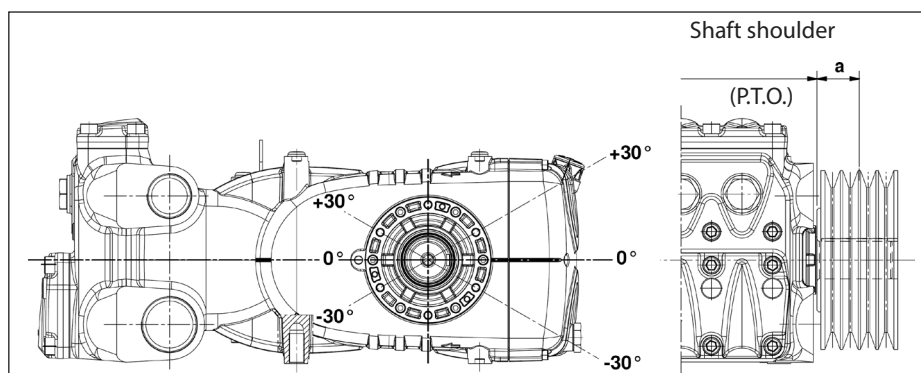

Fig. 11
The transmission is considered adequate if the load is applied to a maximum distance **a = 40 mm** from the shaft shoulder (P.T.O) as shown in Fig. 11.
- b) Use high performance belts – for example **XPB** instead of **SPB** – as a lower quantity of belts for the same transmitted power may be necessary and a consequent shorter resulting distance compared to the shaft shoulder (P.T.O.) “a” of Fig. 11.
- e) Follow the direction of the belt pull as shown in Fig. 11 for other needs, contact our **Technical** or **Customer Service Department**.